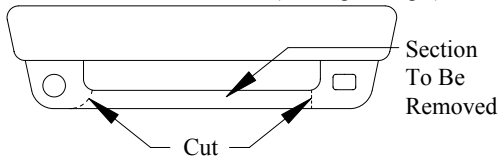

FIGURE 1
****See Note Below and Figure 1**
①	Qty. (2)	Hex Bolt, 1/2"-13 x 1-3/4"	③	Qty. (2)	Handle Nut, 1/2"
②	Qty. (2)	Conical Washer, 1/2"	④	Qty. (4)	Hex Bolt, M10 x 1.50 x 45
****NOTE: All Mazda vehicles and '93 through -97 Ford Rangers with fog light option require extensive fascia cut. See Figure 1. CONSULT VEHICLE OWNER.**